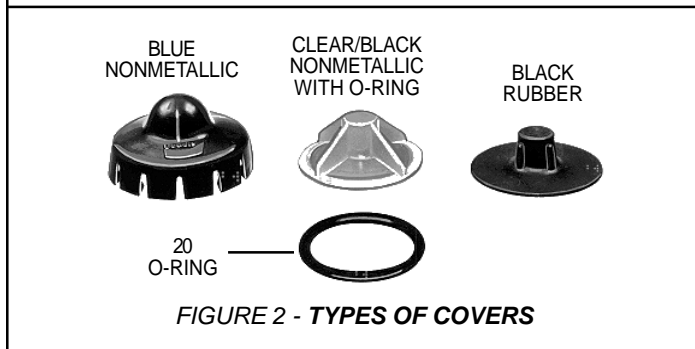

FIGURE 2 - TYPES OF COVERS
3. If the governor has a blue nonmetallic cover, (refer to Figure 2) hold governor with one hand, with the other hand grip cover from the top and pull up with thumb until cover disengages from the governor body. If top cover on governor is made of rubber or clear nonmetallic material unscrew cover until it releases from the adjusting screw (4) of governor. Remove o-ring (20, Figure 2) if present. **Note:** O-ring (20) is used on Hi-Temp and waterproof governors only.
4. With a pair of retaining ring pliers, remove the spring assembly retaining ring (1) and save.
5. Pull the adjusting screw (4) and spring assembly out of the governor body (2).
If cover provided in kit is black rubber, (refer to Figure 2) install by pushing it onto the adjusting screw.